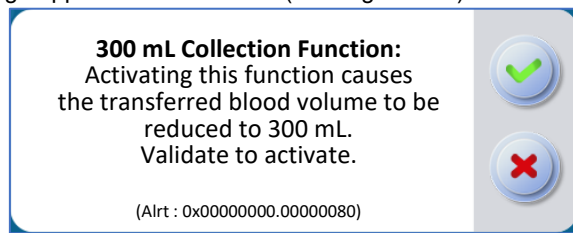

Figure 113: 300mL treatment screen
- The following message appears on the screen (See Figure 113):